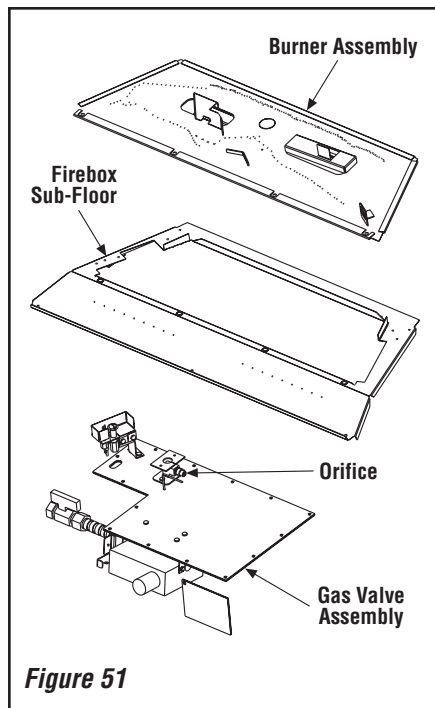
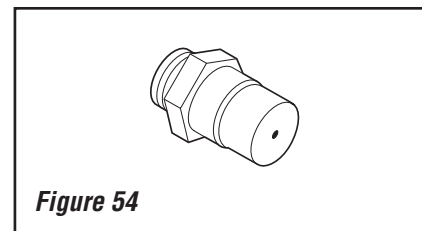

Figure 51
Figure 54
Step 4. Refer to *Figure 51*. Remove the burner assembly with attached venturi tube.
Step 13. (Refer to **Figure 51**) Remove the orifice from the manifold and replace it with the one provided in the kit. See the following table for orifice sizes for natural and propane models. **Figure 54** illustrates the orifice. Always check and verify orifice size.